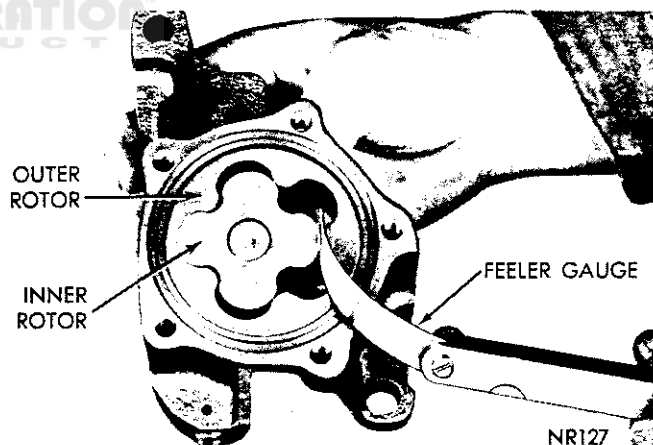

Fig. 55—Measuring Clearance Between Rotors
(7) Install inner rotor and shaft into pump body. If clearance between inner rotor and outer rotor (Fig. 55) is more than .010 inch, replace inner and outer rotors.